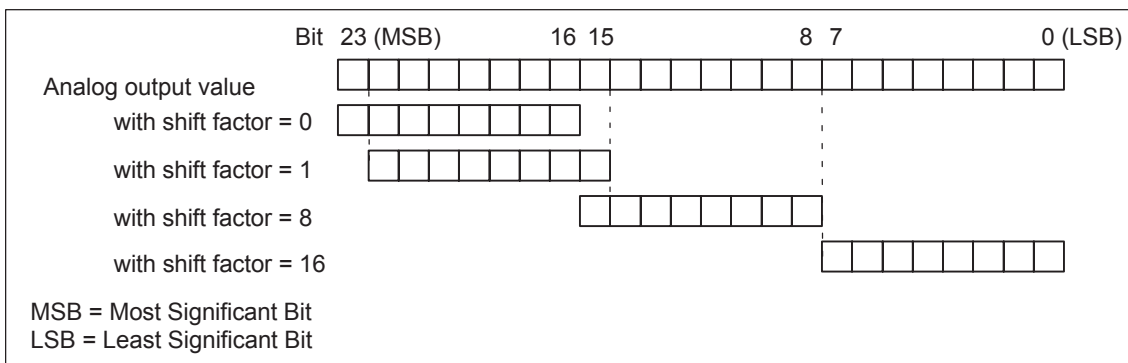

Fig. 7-9 Shift factor for analog output of 24-bit signals
- Shift factor (refer to Figs. 7-9 and 7-10)